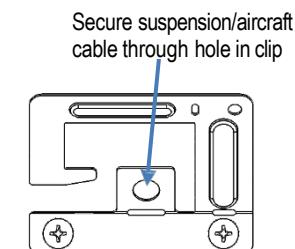

FIG. 11: SUSPENSION MOUNTING
- Use hanger wire holes at all 4 corners and appropriately rated hanging cables (not included) to suspend fixture. See figure 11.